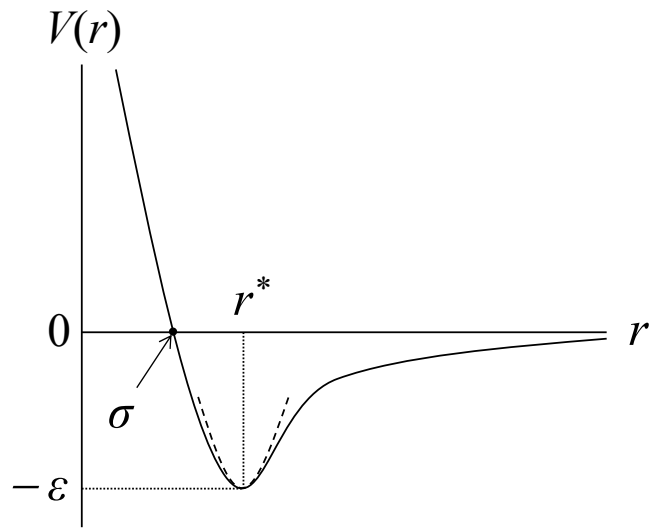

Figure 1
- (1) Express the interatomic distance  $r^*$  that minimizes  $V(r)$  using  $\sigma$ .
- (2) When the displacement of the interatomic distance ( $\Delta r = r - r^*$ ) is small, the potential between two noble gas atoms bound by the van der Waals force can be approximated to the harmonic oscillator potential,  $V(r) = V(r^*) + k(r - r^*)^2/2$ , shown by the dashed line in Figure 1. Here,  $k$  is the spring constant. In this case,  $V(r)$  can be obtained by performing a Taylor expansion of  $\textcircled{1}$  in the vicinity of  $r^*$ . Express  $k$  using  $\varepsilon$  and  $\sigma$ .
- (3) In general, noble gas with van der Waals bonding crystallizes at low temperature. Explain in about 20 words which crystal structure is more stable, the body-centered cubic lattice or face-centered cubic lattice, together with the reason.